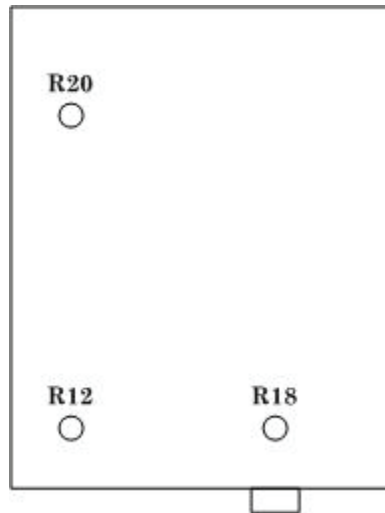

Figure 2. Test instrument top view.
(1) Adjust R12 (fig. 2) until TI meter indicates within **CAL** marking (R).
(2) Adjust **COARSE** and **FINE** controls until TI meter indicates 100 mW. Adjust R20 (fig. 2) until the two horizontal lines displayed on oscilloscope coincide (R).
If balance cannot be attained, adjust R20 for minimum separation of horizontal lines. Then adjust **COARSE** and **FINE** controls until horizontal lines coincide. Adjust R18 (fig. 2) until TI meter reads exactly 100 mW (0 dB).
(3) Using variable attenuator and RF power amplifier output level control, reduce the power meter indication exactly 8 dB from indication recorded in **a** (7) above.
(4) Adjust **COARSE** and **FINE** controls until the two horizontal lines displayed on oscilloscope coincide. Adjust R18 (fig. 2) until TI meter indicates - 8 dB below 100 mW (R).
(5) Repeat (2) through (4) above while adjusting R20 and R18 for best in tolerance condition.